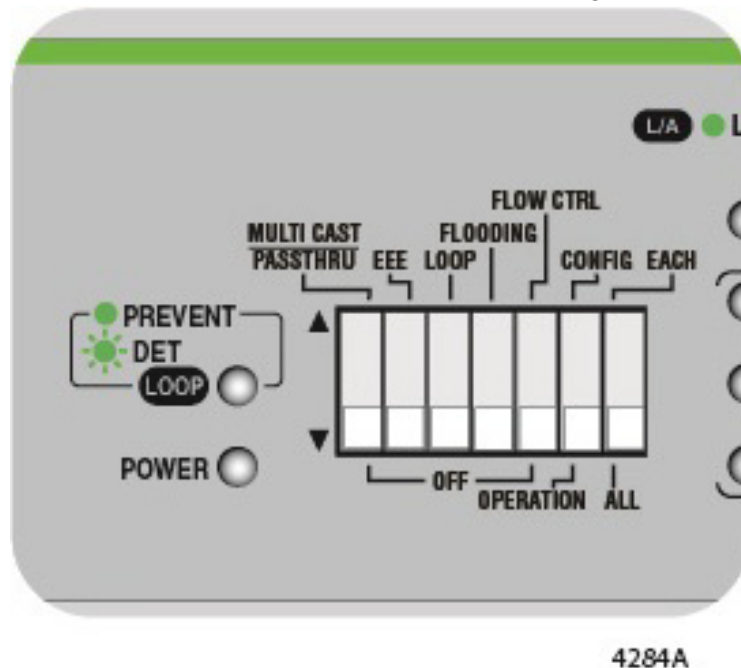

Figure 50. DIP Switch Settings for Disabling Flooding
- Set DIP switch # 4 to the DOWN position. See Figure 50.